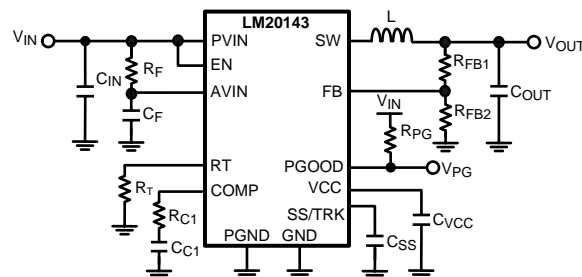

Figure 32. Typical Application Circuit
The LM20143 switching regulator features all of the functions necessary to implement an efficient low voltage buck regulator using a minimum number of external components. This easy to use regulator features two integrated switches and is capable of supplying up to 3 A of continuous output current. The regulator utilizes peak current mode control with nonlinear slope compensation to optimize stability and transient response over the entire output voltage range. Peak current mode control also provides inherent line feed-forward, cycle-by-cycle current limiting and easy loop compensation. The switching frequency can be varied from 500 kHz to 1.5 MHz with an external resistor to ground. The device can operate at high switching frequency allowing use of a small inductor while still achieving efficiencies as high as 96%. The precision internal voltage reference allows the output to be set as low as 0.8 V. Fault protection features include: current limiting, thermal shutdown, over voltage protection, and shutdown capability. The device is available in the HTSSOP 16-pin package featuring an exposed pad to aid thermal dissipation. The LM20143 can be used in numerous applications to efficiently step-down from a 5 V or 3.3 V bus. The typical application circuit for the LM20143 is shown in Figure 32 in the design guide.
This section walks the designer through the steps necessary to select the external components to build a fully functional power supply. As with any DC-DC converter numerous trade-offs are possible to optimize the design for efficiency, size, or performance. These will be taken into account and highlighted throughout this section. The circuit shown in Figure 32 may be used as a reference to facilitate component selection. Unless otherwise indicated all formulas assume units of amps (A) for current, farads (F) for capacitance, henries (H) for inductance and volts (V) for voltages.
To prevent high frequency noise spikes from disturbing the sensitive analog circuitry connected to the AVIN and AGND pins, a high frequency RC filter is required between PVIN and AVIN. These components are shown in Figure 32 as C_F and R_F . The required value for R_F is 1 Ω . C_F must be used. Recommended value of C_F is 1.0 μ F. The filter capacitor, C_F should be placed as close to the IC as possible with a direct connection from AVIN to AGND. A good quality X5R or X7R ceramic capacitor should be used for C_F .